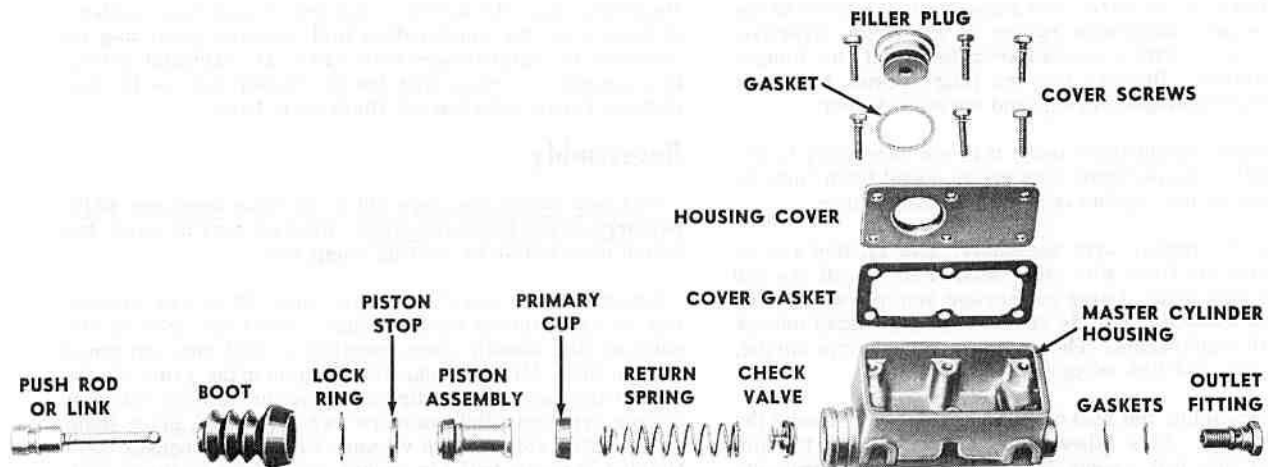

FIG. 351
**CHAMPION AND COMMANDER** The brake master cylinder used on the 1948 model cars is illustrated in Fig. 351. The cylinder housing is of the cast aluminum type. The